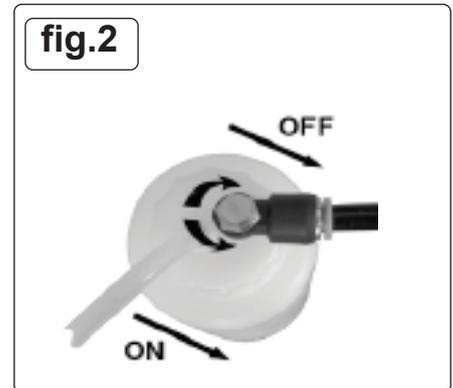

fig.2
- 4.1.5. Ensure that the regulator (fig.2) on the top of the bottle is in the closed position, connect the air line to the tyre. Ensure that the pressure bottle is in safe upright position.